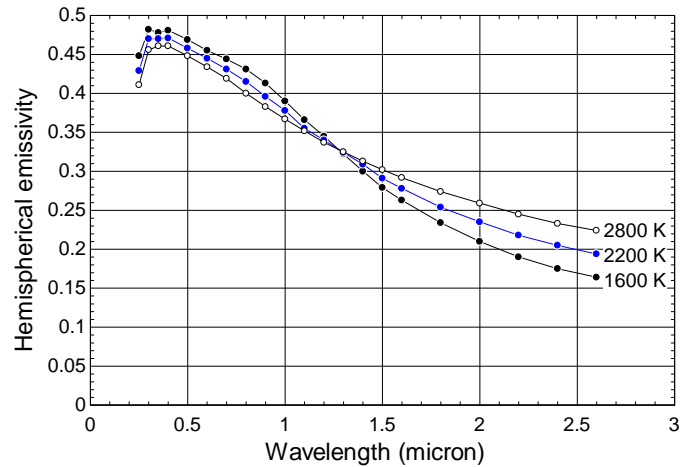

Figure P10.4-8: Hemispherical emittance of tungsten (data from CRC Handbook)
10.4-8 Figure P10.4-8 shows the hemispherical emittance of tungsten as a function of wavelength for various temperatures; these data are provided in an EES Lookup table (Tungsten\_spectral.lkt in the Userlib/Heat Transfer/Radiation Properties). The emission properties of tungsten are of particular engineering interest because tungsten is used as a filament for incandescent light bulbs.